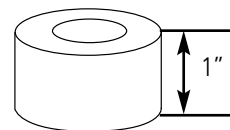

Figure 1-12. Spacer
3. Place a 1 inch tall spacer over each hole on the top four corners of the stand. Refer to Figure 1-12.